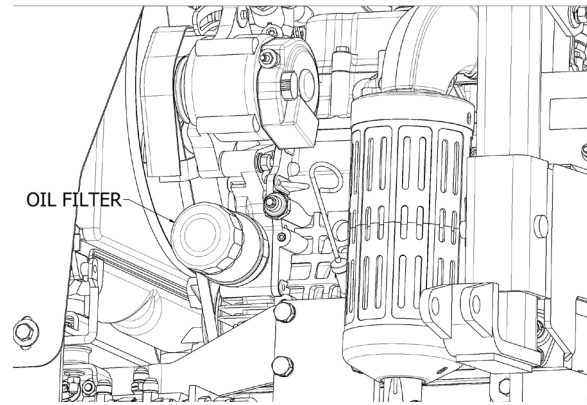

Figure 5.6 – Engine Oil Filter
1. Locate the engine oil filter. See Figure 5.6. Change according to the maintenance schedule at the beginning of the chapter or more frequently if operated in severe conditions.